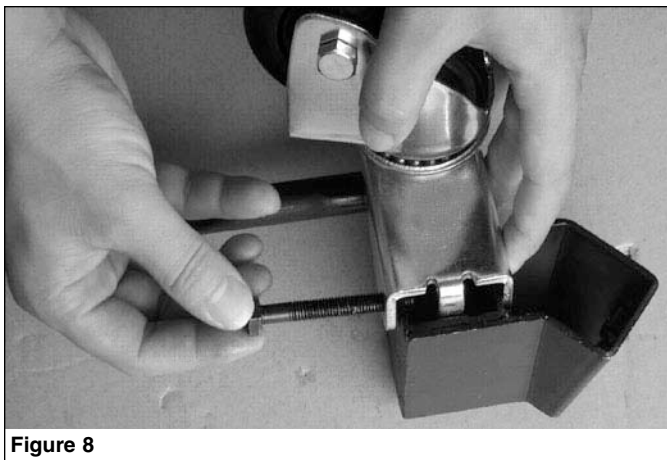

Figure 8
- Refer to Figure 8 and 9; place caster onto the support and secure in position with bolt and hex nut.